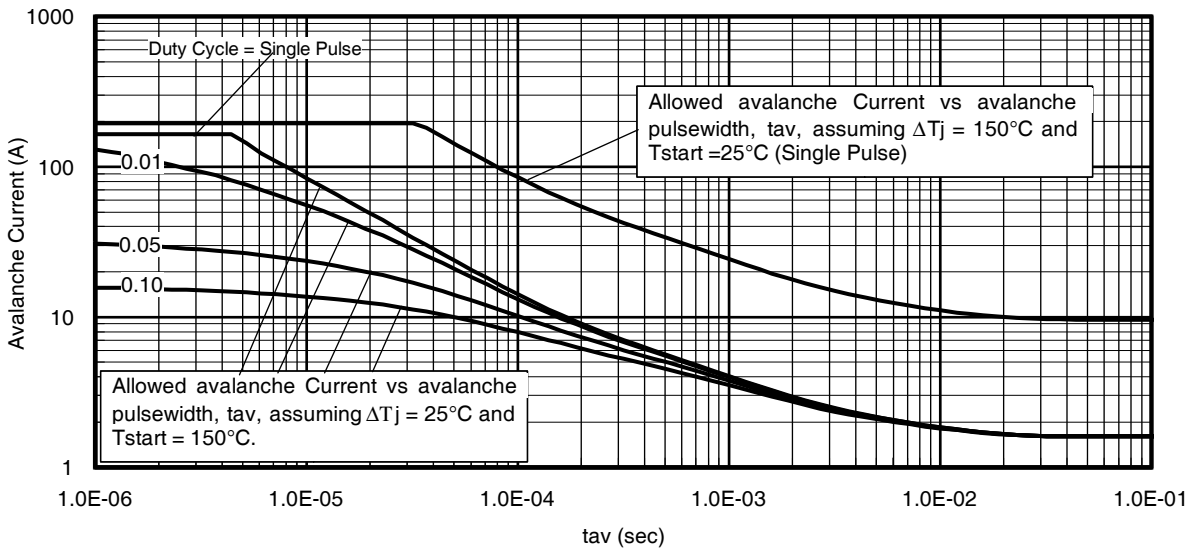

Fig 14. Typical Avalanche Current vs. Pulsewidth
| $I_{AR}$                     | Avalanche Current ②             | See Fig. 14, 15, 22a, 22b | A  |
- ④  $I_{SD} \leq 165A, di/dt \leq 430A/\mu s, V_{DD} \leq V_{(BR)DSS}, T_J \leq 175^\circ\text{C}$ .
- ⑤ Pulse width  $\leq 400\mu s$ ; duty cycle  $\leq 2\%$ .
- ⑥  $C_{oss\ eff. (TR)}$  is a fixed capacitance that gives the same charging time as  $C_{oss}$  while  $V_{DS}$  is rising from 0 to 80%  $V_{DSS}$ .
- ⑦  $C_{oss\ eff. (ER)}$  is a fixed capacitance that gives the same energy as  $C_{oss}$  while  $V_{DS}$  is rising from 0 to 80%  $V_{DSS}$ .
- ⑧ When mounted on 1" square PCB (FR-4 or G-10 Material). For recommended footprint and soldering techniques refer to application note #AN-994.
- ⑨  $R_{\theta j}$  is measured at  $T_J$  approximately  $90^\circ\text{C}$ .
- ⑩ Limited by  $T_{Jmax}$ , see Fig. 14, 15, 22a, 22b for typical repetitive avalanche performance.
- ⑪  $R_{\theta JC}$  value shown is at time zero.
**Notes on Repetitive Avalanche Curves, Figures 14, 15:**
7.  $\Delta T$  = Allowable rise in junction temperature, not to exceed  $T_{jmax}$  (assumed as 25°C in Figure 14, 15).